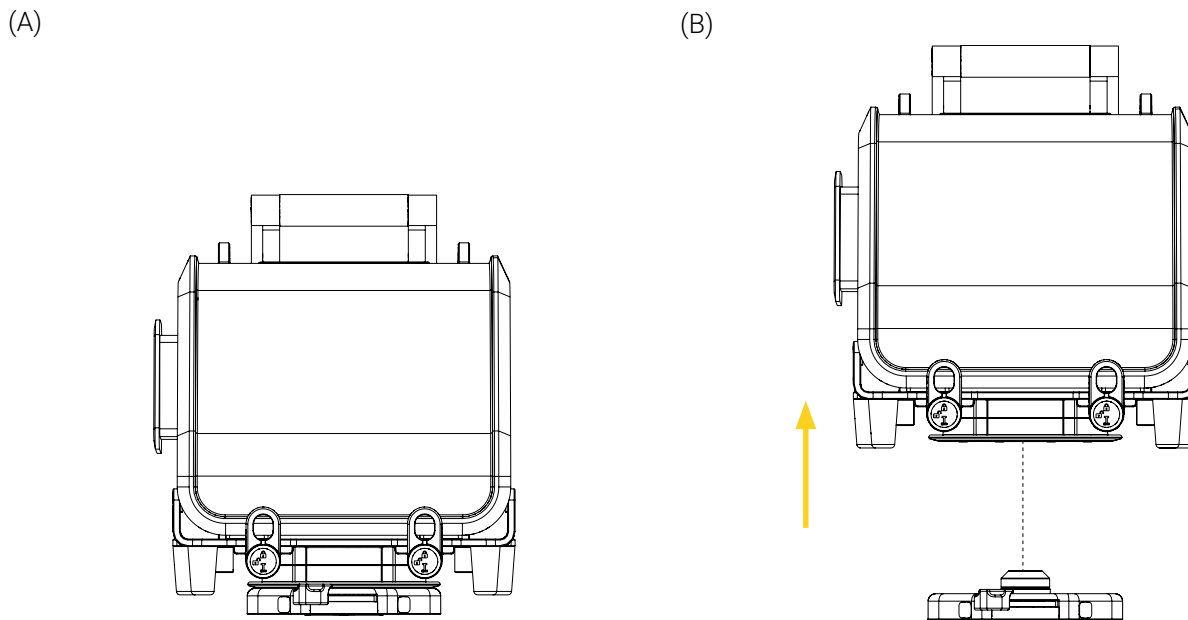

Figure 12: Removing the mounting bracket from the Universal Mounting Base
- Lift the mounting bracket vertically to remove it from the base (Figure 12).